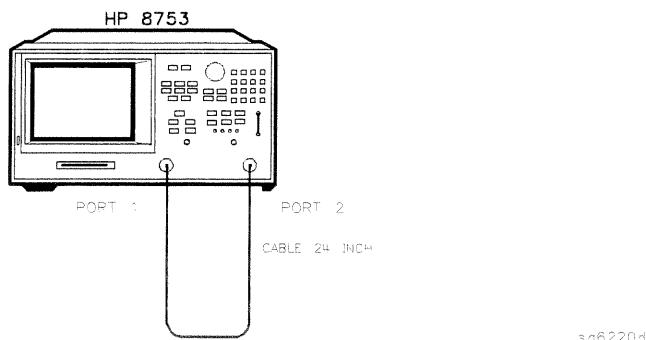

Figure 2-47. Test Port Magnitude Compression Test Setup
1. Connect the equipment as shown in Figure 2-47.